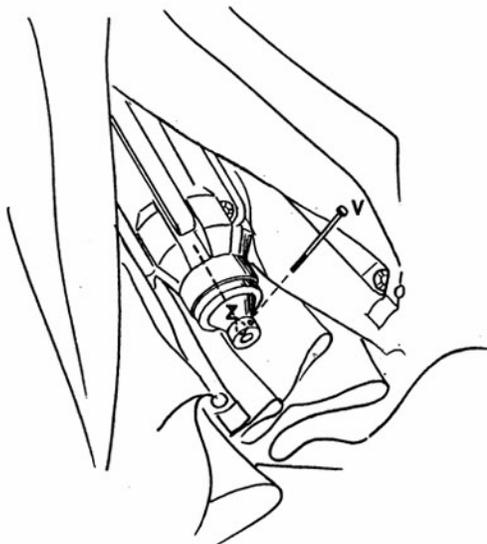

Fig. 6
REMOVAL OF THE WINCH AND THE FABRIC COVER OF THE UMBRELLA (fig. 6 - 6a - 6b):
1. (fig. 6) unscrew screw (V) to free the rope (Z).